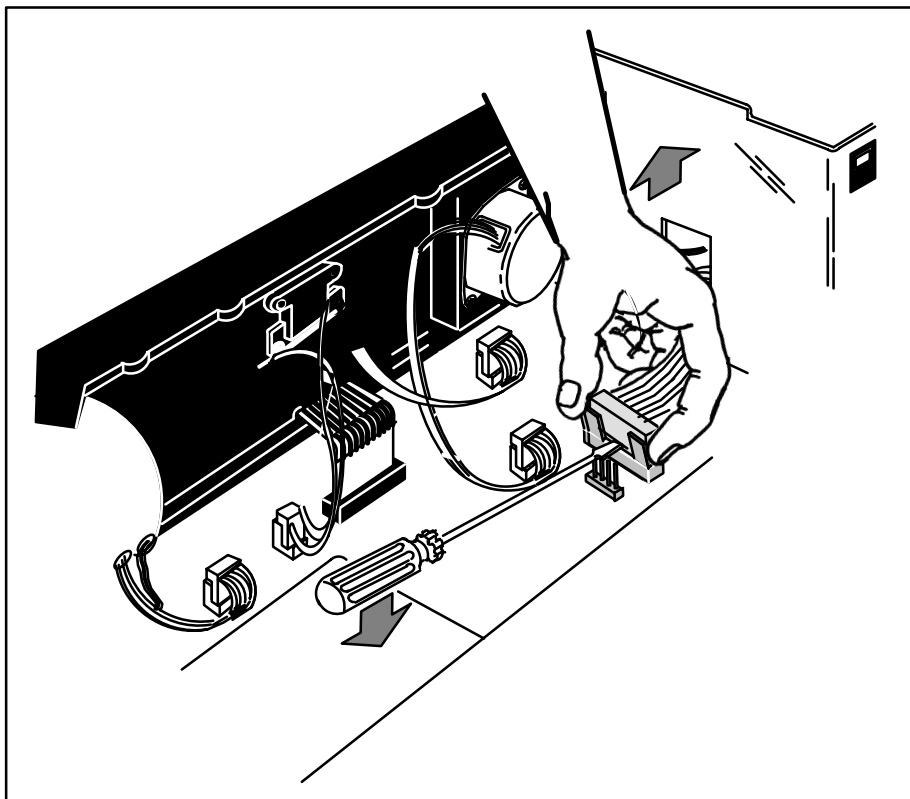

Figure 7-10. DC Cable Removal Detail
- b. Refer to figure 7-10. Insert the screwdriver between the connector and P1, and twist to loosen the connector. Remove the connector.